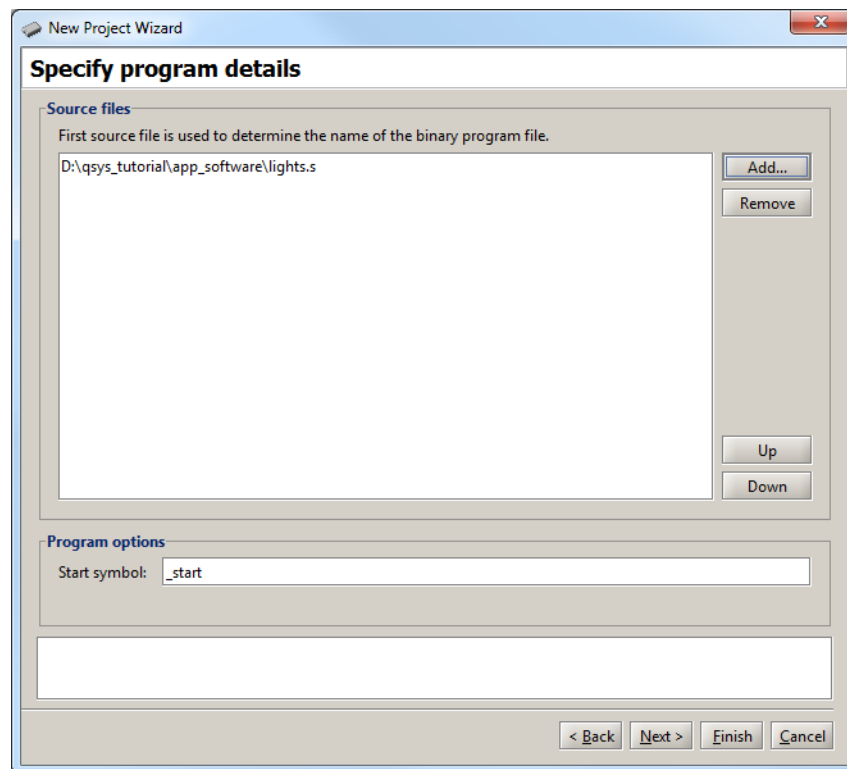

Figure 30. Specify the application program to use.
5. Click **Add...** to display a file selection window and choose the *lights.s* file, or *lights.c* for a C program, and click **Select**. We placed the application-software files in the directory *qsys_tutorial\app_software*. Upon returning to the window in Figure 30, click **Next**.
6. In the window in Figure 30, ensure that the Host Connection is set to *USB-Blaster*, the Processor is set to *nios2_processor* and the Terminal Device is set to *jtag_uart*. Click Next.